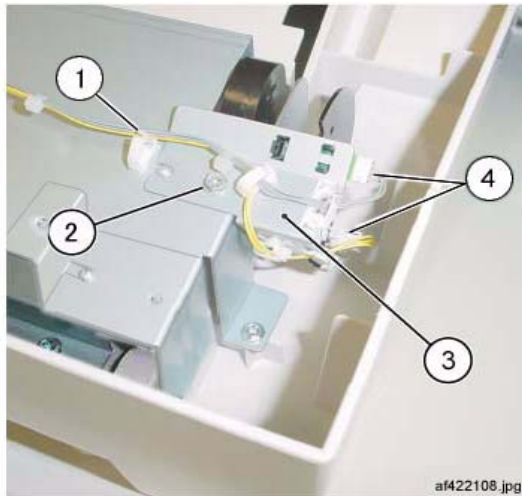

Figure 1 Removing the Stacker Stack Sensor Assembly (af422108)
5. Remove the Stacker Stack Sensor Assembly. (Figure 1)